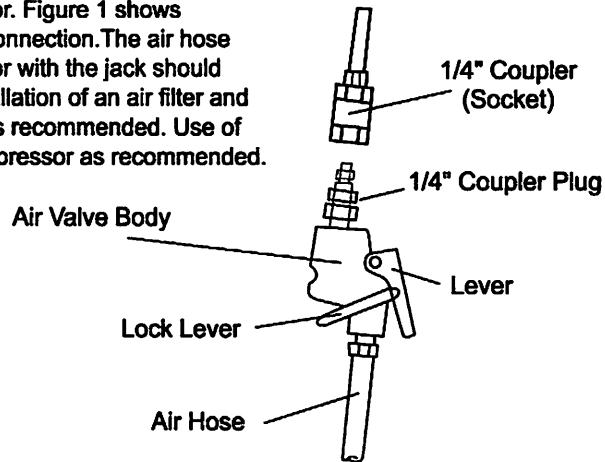

Figure 1
1. The jack comes fully assembled and easily connects to an air compressor. Figure 1 shows proper jack/air compressor connection. The air hose connecting the air compressor with the jack should be as short as possible. Installation of an air filter and oiler on the compressor end is recommended. Use of a 3 horsepower or large compressor as recommended.